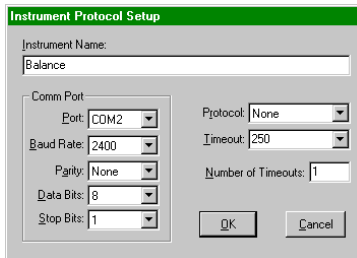

Figure 3.3: Instrument Protocol Setup dialog box
3. Click on the '**Create**' button to set up a new instrument. You will advance to the [Instrument Protocol Setup] dialog box, as seen in Figure 3.3.
Click on the '**Yes**' button if you wish to save the changes, the **No** button to proceed without saving the configuration, or the '**Cancel**' button to return to the [Instrument Protocol Setup] dialog box (see Figure 3.3, Page 20).